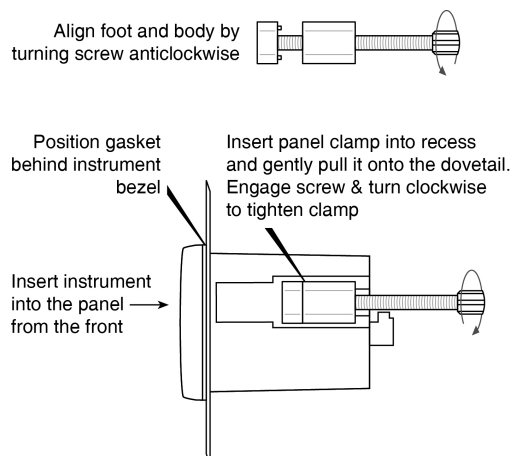

Fig 4 Fitting panel mounting clamps
- Place a clamp in the recess on each side of the instrument, pulling gently to slide it onto the dovetail as shown in Fig 4. Push the knurled screw slightly forward to engage the thread and tighten by turning clockwise until it is just finger tight. When the clamps are fitted ensure that the gasket behind the front panel bezel is correctly positioned before fully tightening the clamps to secure the instrument. The maximum recommended clamp tightening torque is 22cNm (1.95 lbf in) which is approximately equivalent to finger-tight plus one half turn. **Do not over tighten.**